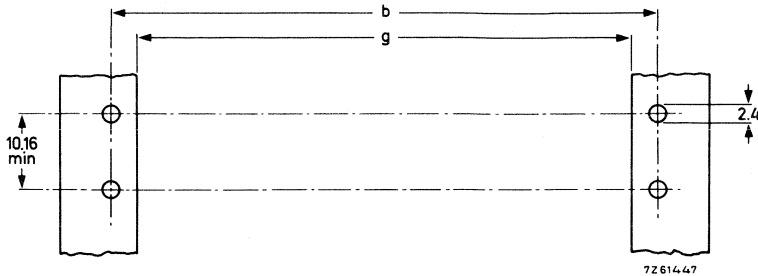

Fig. 12. Rail mounting; for dimensions b and g, see Table 2.
1. Use the hole configurations shown in Figs. 12 and 13 respectively.